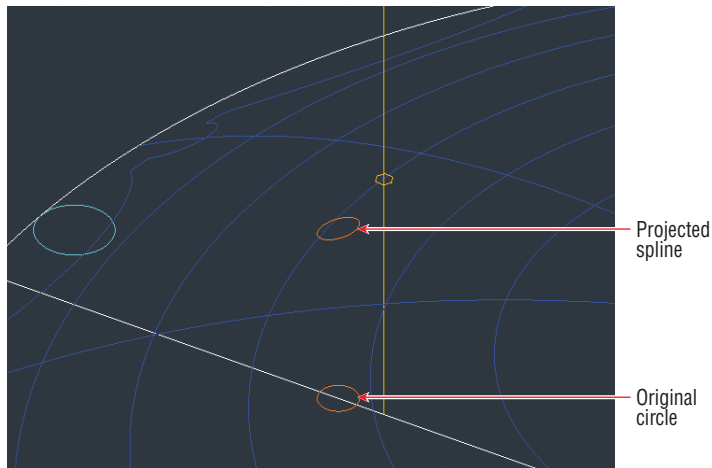

FIGURE 17.11 Projecting one mast void upward onto the dome membrane's surface
12. Select the Project To UCS tool in the Project Geometry panel, select the small orange circle, and press Enter. Select the blue dome, and press Enter. A new projected spline appears on the dome surface (see Figure 17.11).